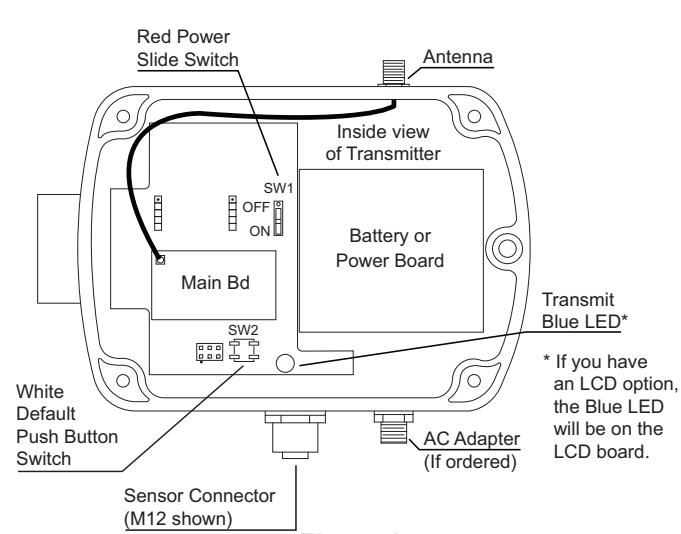

Figure 2
Install batteries or connect the AC adapter (depending on model), you will need to open the transmitter's cover, refer to **Figure 2**.
- 6.1. Make sure the red power switch is OFF. See diagram in **Figure 2**.